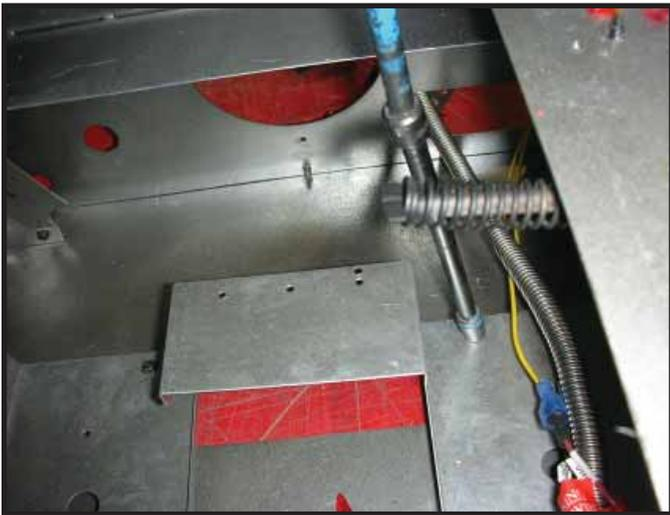

Figure 8.14 Component Tray
6. Remove four screws from valve and component tray that is attached to the very bottom of the fireplace. This entire tray can be slid to the side to provide easier access to the blower. Removing these screws will require a longer bit shaft in a cordless drill to reach down through the firebox opening. See Figure 8.14.